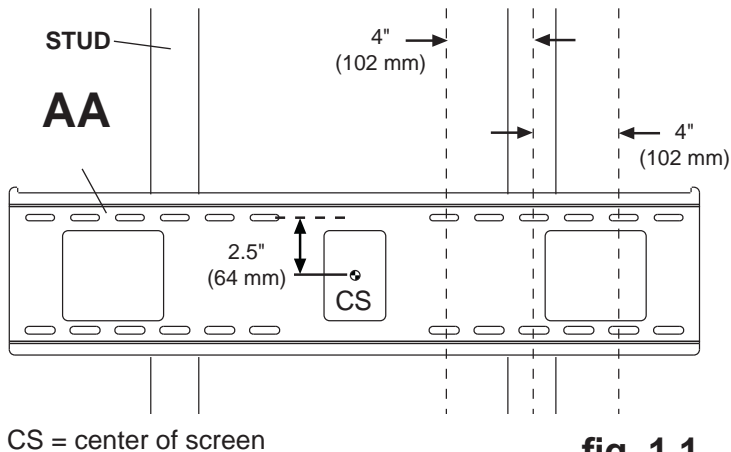
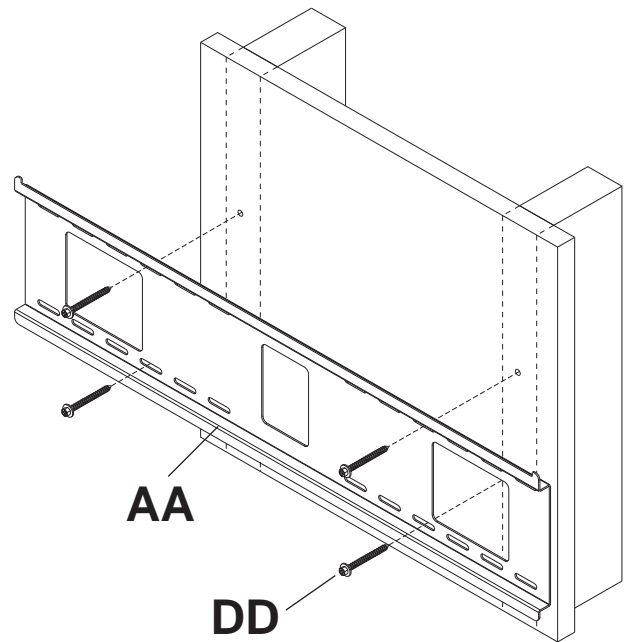

fig. 1.1
fig. 1.2
- 1 Use a stud finder to locate the edges of the studs. Use of an edge-to-edge stud finder is highly recommended. Based on their edges, draw a vertical line down each stud's center. Place wall plate on wall as a template. The top mounting slots should be 2.5" (64 mm) above the desired screen center as shown in figure 1.1. Level plate, and mark the center of the four mounting holes. Make sure that the mounting holes are on the stud centerlines. Drill four 5/32" (4 mm) dia. holes 2.5" (64 mm) deep. Make sure that the wall plate is level, secure it using four #14 x 2.5" wood screws (**DD**) as shown in figure 1.2.
**NOTE:** Wall plate may be mounted up to 4" (102 mm) off center as shown in figure 1.1.
- 1 Make sure that wall plate (AA) is level, use it as a template to mark four mounting holes. The top mounting hole should be 2.5" (64 mm) above the desired screen center as shown in figure 1.1 on page 4. Drill four 5/16" (8 mm) dia. holes to a minimum depth of 2.5" (64 mm). Insert anchors (EE) in holes flush with wall as shown (right). Place wall plate over anchors and secure with #14 x 2.5" screws (DD). Level, then tighten all fasteners.